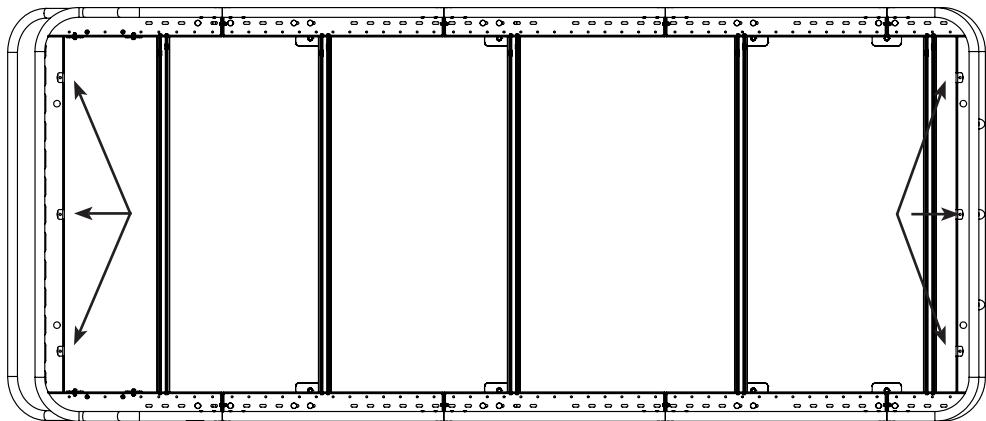

FIG 28
11.1 Attach Clip Nuts to Baskets: Install the Clip Nuts to the Front and Rear Basket locations as shown in FIG 28.